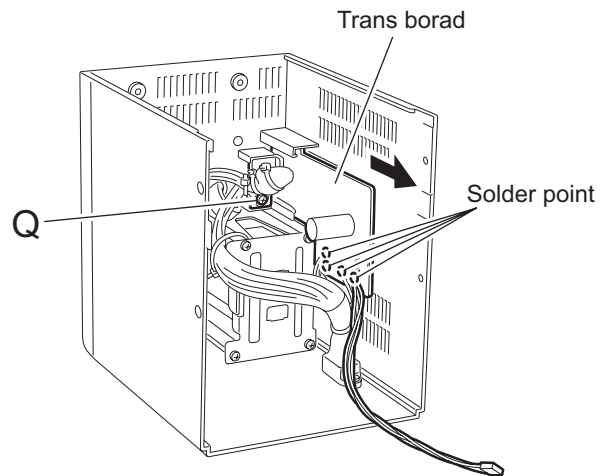

Fig.17
3.1.8 Removing the Transformer board (See Fig.17)